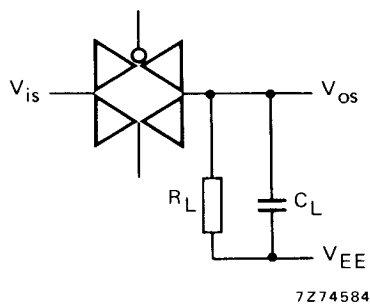

Fig. 9.
- $R_L = 10\text{ k}\Omega$; $C_L = 15\text{ pF}$; channel ON; $V_{is} = \frac{1}{2} V_{DD(p-p)}$ (sine-wave, symmetrical about $\frac{1}{2} V_{DD}$); $f_{is} = 1\text{ kHz}$; see Fig. 9.
- $R_L = 1\text{ k}\Omega$; $C_L = 5\text{ pF}$; channel OFF; $V_{is} = \frac{1}{2} V_{DD(p-p)}$ (sine-wave, symmetrical about $\frac{1}{2} V_{DD}$); $20 \log \frac{V_{os}}{V_{is}} = -50\text{ dB}$; see Fig. 9.
- $R_L = 1\text{ k}\Omega$; $C_L = 5\text{ pF}$; channel ON; $V_{is} = \frac{1}{2} V_{DD(p-p)}$ (sine-wave, symmetrical about $\frac{1}{2} V_{DD}$); $20 \log \frac{V_{os}}{V_{is}} = -3\text{ dB}$; see Fig. 9.